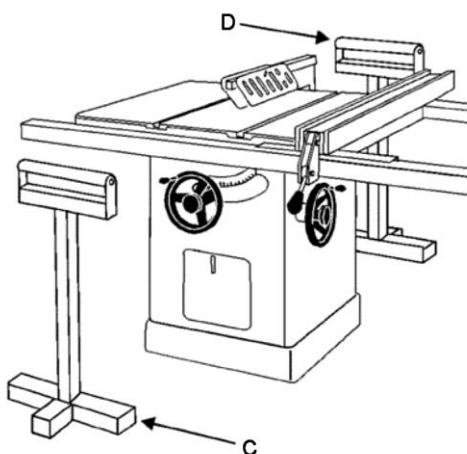

Figure 9-5
When ripping long boards, use a support at front of table (C, Figure 9-5), such as a roller stand, and a support or "tailman" at the rear (D).